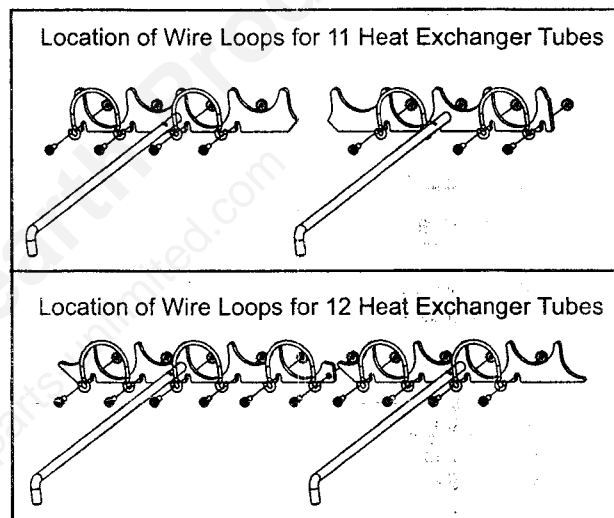

Figure 14
1. There are 4 scraper rods included in the kit. Depending on how many tubes are in your stove will depend on which 2 scraper rods you need. One set is for stoves that have 11 heat exchanger tubes and one set is for stoves with 12 tubes. Discard the set you do not need. **Figure 14.**